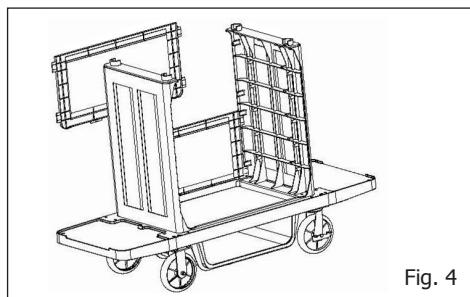

Fig. 4
- Put the back boards into the sockets on the side boards. (Fig.4)